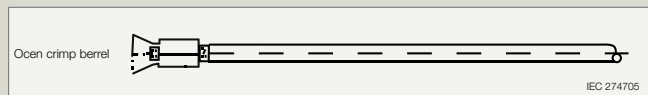

Fig. 2 - Wire crimped onto PIN
**1.** A **metallic contact known as a PIN** (fig. 4) made of tin-plated copper and formed using a moulding technique. It has two wings necessary to anchor it to the electric wire. This is done by crimping or mechanically, using matrix **IS3153-IS3154** in the relevant pliers **UMCT3149**, which, by bending the wings on the metallic core of the photovoltaic wire (figs. 2, 3), ensures correct and safe anchoring in accordance with **CEI EN 60352-2**. Perfect insulation of the metallic contact can be further guaranteed by placing caps **IS51400** and **IS52400**